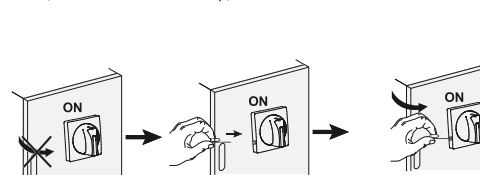

Рисунок 13 – Функция TEST / Figure 13 – TEST function
- TEST. The R10N residual current circuit-breaker requires the use of the TEST function to ensure proper functionality. The TEST button on the operating module duplicates the button on the modular device, which is designed to create a fault in the electrical circuit to test the device’s ability to trip and de-energize. The TEST button simulates an emergency situation to test the device’s protective functions and ensure its reliability in case of an actual incident. Detailed instructions are presented in figure 13.